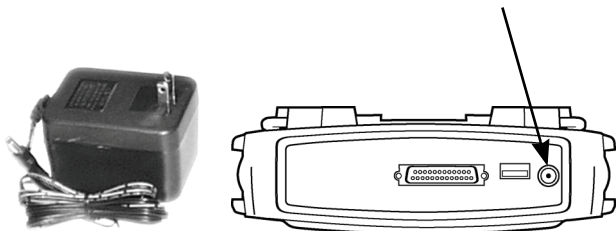

Figure 2.1: Power Adapter and Scan Tool Power Port
- 2 Plug the Battery Charger connector into the External Power Port located on the top of the Scan Tool, see Figure 2.1. The battery is fully charged in 3 hours.